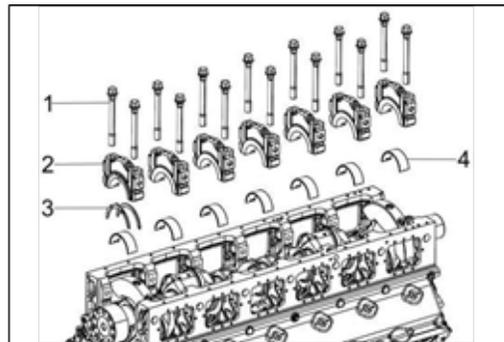

Figure 116
- Loosen and remove the main bearing bolts (Figure 116, item 1).
- Remove the main bearing caps (Figure 116, item 2). Be sure to note the markings on the main bearing caps, or mark them yourself, so they can be reinstalled in the same order as they were removed. **DO NOT REMOVE THE BEARING INSERTS AT THIS TIME.**
- Remove the upper main bearings (Figure 116, item 4) and thrust plates (Figure 116, item 3).